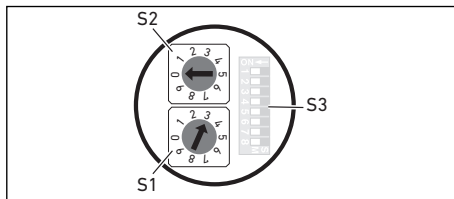

Fig. 8: S1, S2 address switches and S3 mode switch on the bus coupler
The station address is set using the S1 and S2 switches (see Fig. 8).
- ▶ Assign the station address freely from 1 to 99 using S1 and S2 (see Fig. 8).
The S3 mode switch used to set the diagnostic messages is located under the PG fitting **A** (see Fig. 8 on page 83).